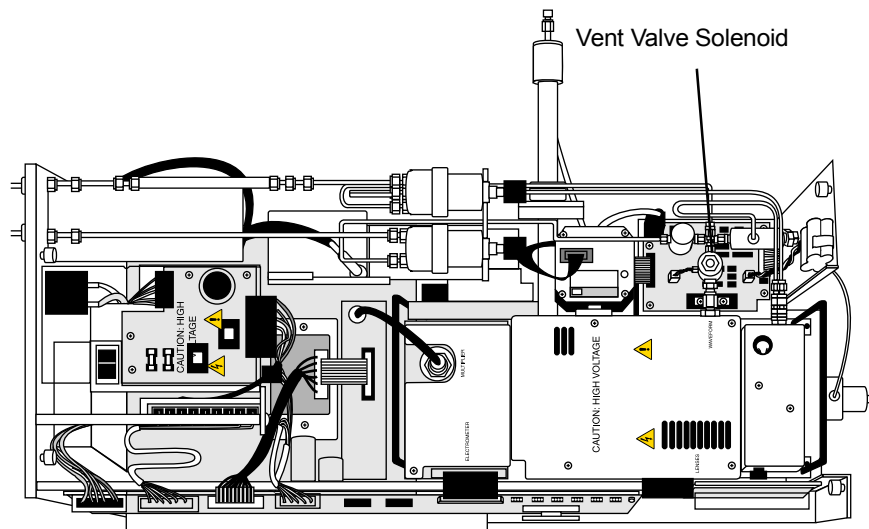

Figure 7-12. GCQ Plus with Top Cover Removed, Showing Vent Valve Solenoid
4. Disconnect the two gas line fittings to the vent valve solenoid. Remove the solenoid and replace it with a new one. See Figure 7-12 for the location of the vent valve solenoid.